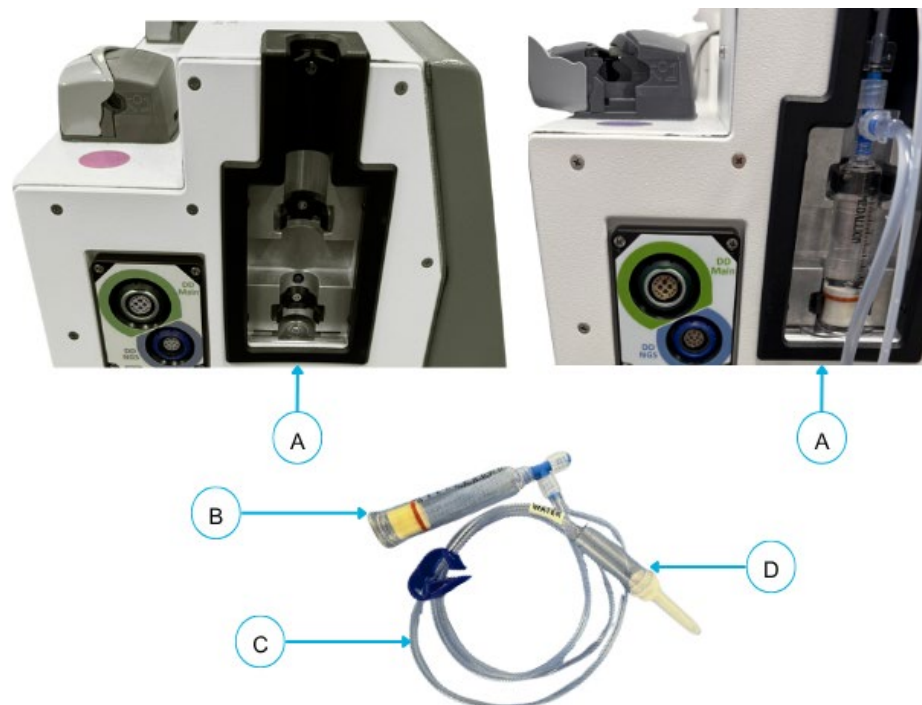

Figure 10-34: Generator Syringe Cradle
3. Keeping the Auto-Refill Syringe (**B**) connected to the Auto-Refill Tubing (**C**), insert the syringe into the syringe cradle (**A**) of the Generator (**Figure 10-34**).